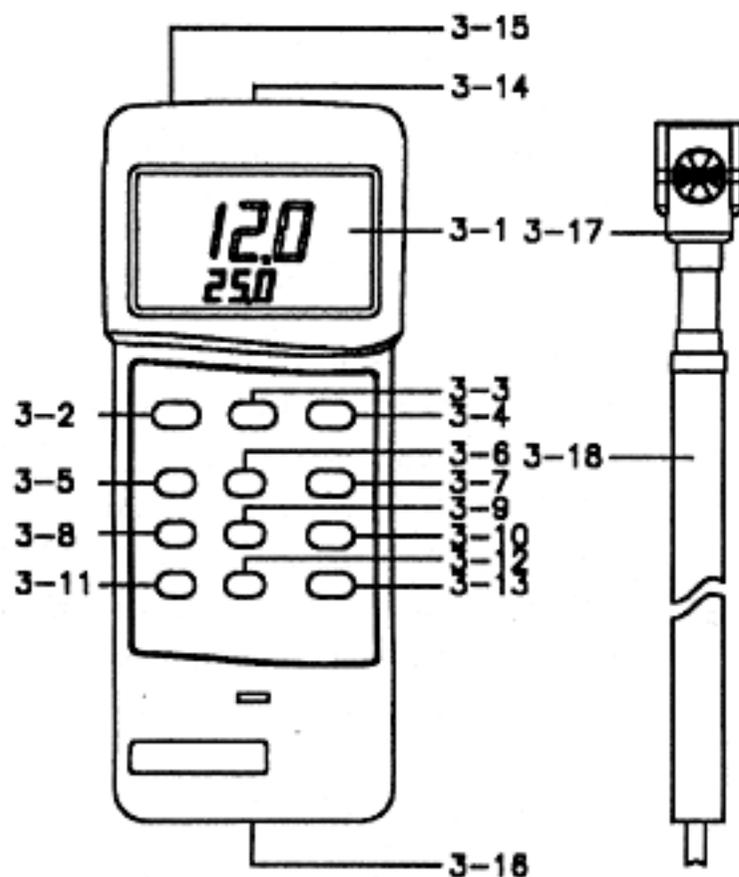

Fig. 1
- 1) Install the " Probe Plug " into the " Probe Input Terminal " ( 3-14, Fig. 1 ).
- 2) Power on the meter by pressing the " Power OFF/ON Button " ( 3-2, Fig. 1 ).
- 3) Select VELOCITY measuring mode by pressing " VEL./FLOW Button " ( 3-7, Fig. 1 ) to get into velocity measuring mode.
- 4) Select the desired temperature units, by pressing the " °C/°F Conversion Button " ( 3-4, Fig. 1 ).
- 5) Select the desired air velocity measurement units, ( mph, ft/min, knot, Km/h, m/s ) by pressing the " Unit/▼ Button " ( 3-6, Fig. 1 ).
During the measuring procedure, pressing the " Data Hold Button " ( 3-3, Fig. 1 ) will hold the measured value and the LCD will indicate " HOLD " symbol on the left.
\* Press the " MAX/MIN/. Button " ( 3-5, Fig. 1 ) once a while to get into Data Record mode. A "REC" symbol appears on the LCD display. At the same time meter records value received by probe.
- 1) Install the "Probe Plug" into the " Probe Input Terminal " ( 3-14, Fig. 1 ).
- 2) Power ON the meter by pressing the " Power OFF/ON Button " ( 3-2, Fig. 1 ).
- 3) Select FLOW measuring mode by pressing " VEL./FLOW Button " ( 3-7, Fig. 1 ) to get into flow measuring mode.
- 4) Select the desired air velocity measurement units, ( CMM or CFM ) by pressing the " Unit/▼ Button " ( 3-6, Fig. 1 ).
- 5) Press " SAMPLE AREA Button " ( 3-13, Fig. 1 ) to set the measuring area (  $m^2$ ,  $ft^2$  ) The more accurate area setting is the more accurate air flow value measured.
- 6) Area setting producre uses four buttons " ▲ ", "UNIT/ ▼ ", " ► " and " MAX/MIN/. ". ( please refer to Fig. 1 page 4 )
During the measuring procedure, pressing the " Data Hold Button " ( 3–3, Fig. 1 ) will hold the measured value and the LCD will indicate " HOLD " symbol on the left.
The instrument features an RS232 output via 3.5 mm Terminal ( 3–15, Fig. 1).
- 2) Slide the Battery Cover ( 3-16, Fig. 1 ) away from the instrument and remove the battery.